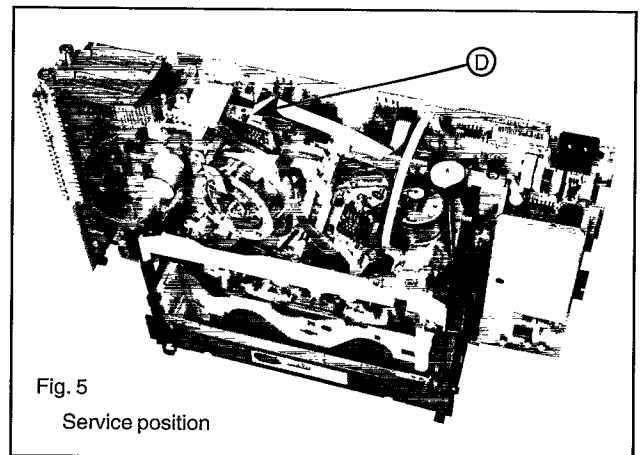
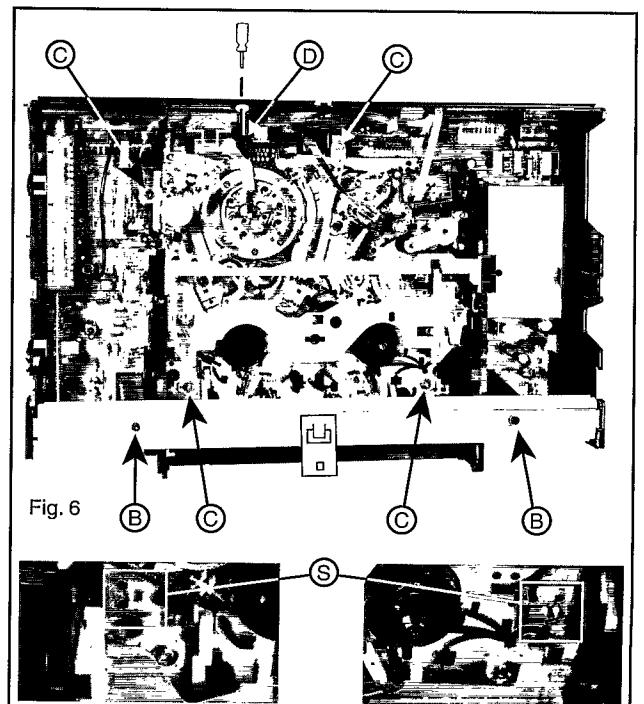

Fig. 5
Fig. 6
- Undo the two screws (B) of the stay and pull it up to remove it.
- Undo and remove the four fastening screws (C) of the drive.
- Detach the Cinch socket cable (K) and ground cable (M) from the socket print (if present).
- Undo the 10 catches (S) from the rear right to the rear front and then from the rear left to the front left.
- After the weight of the motherboard/drive unit has released it from the frame, the catch (S) at the mains socket has to be released for a second time.
- Turn the motherboard/drive unit and move it into the service position (Fig. 5), if necessary.
- Check that all 10 catches (S) are engaged.
- Secure the drive with the four holding screws (C).
- Push the stay onto the frame with the chamfered side facing to the rear and secure with both screws (B).
5. Dismantling the drive (Fig. 3)(Fig. 5)(Fig. 6)**Preparation**